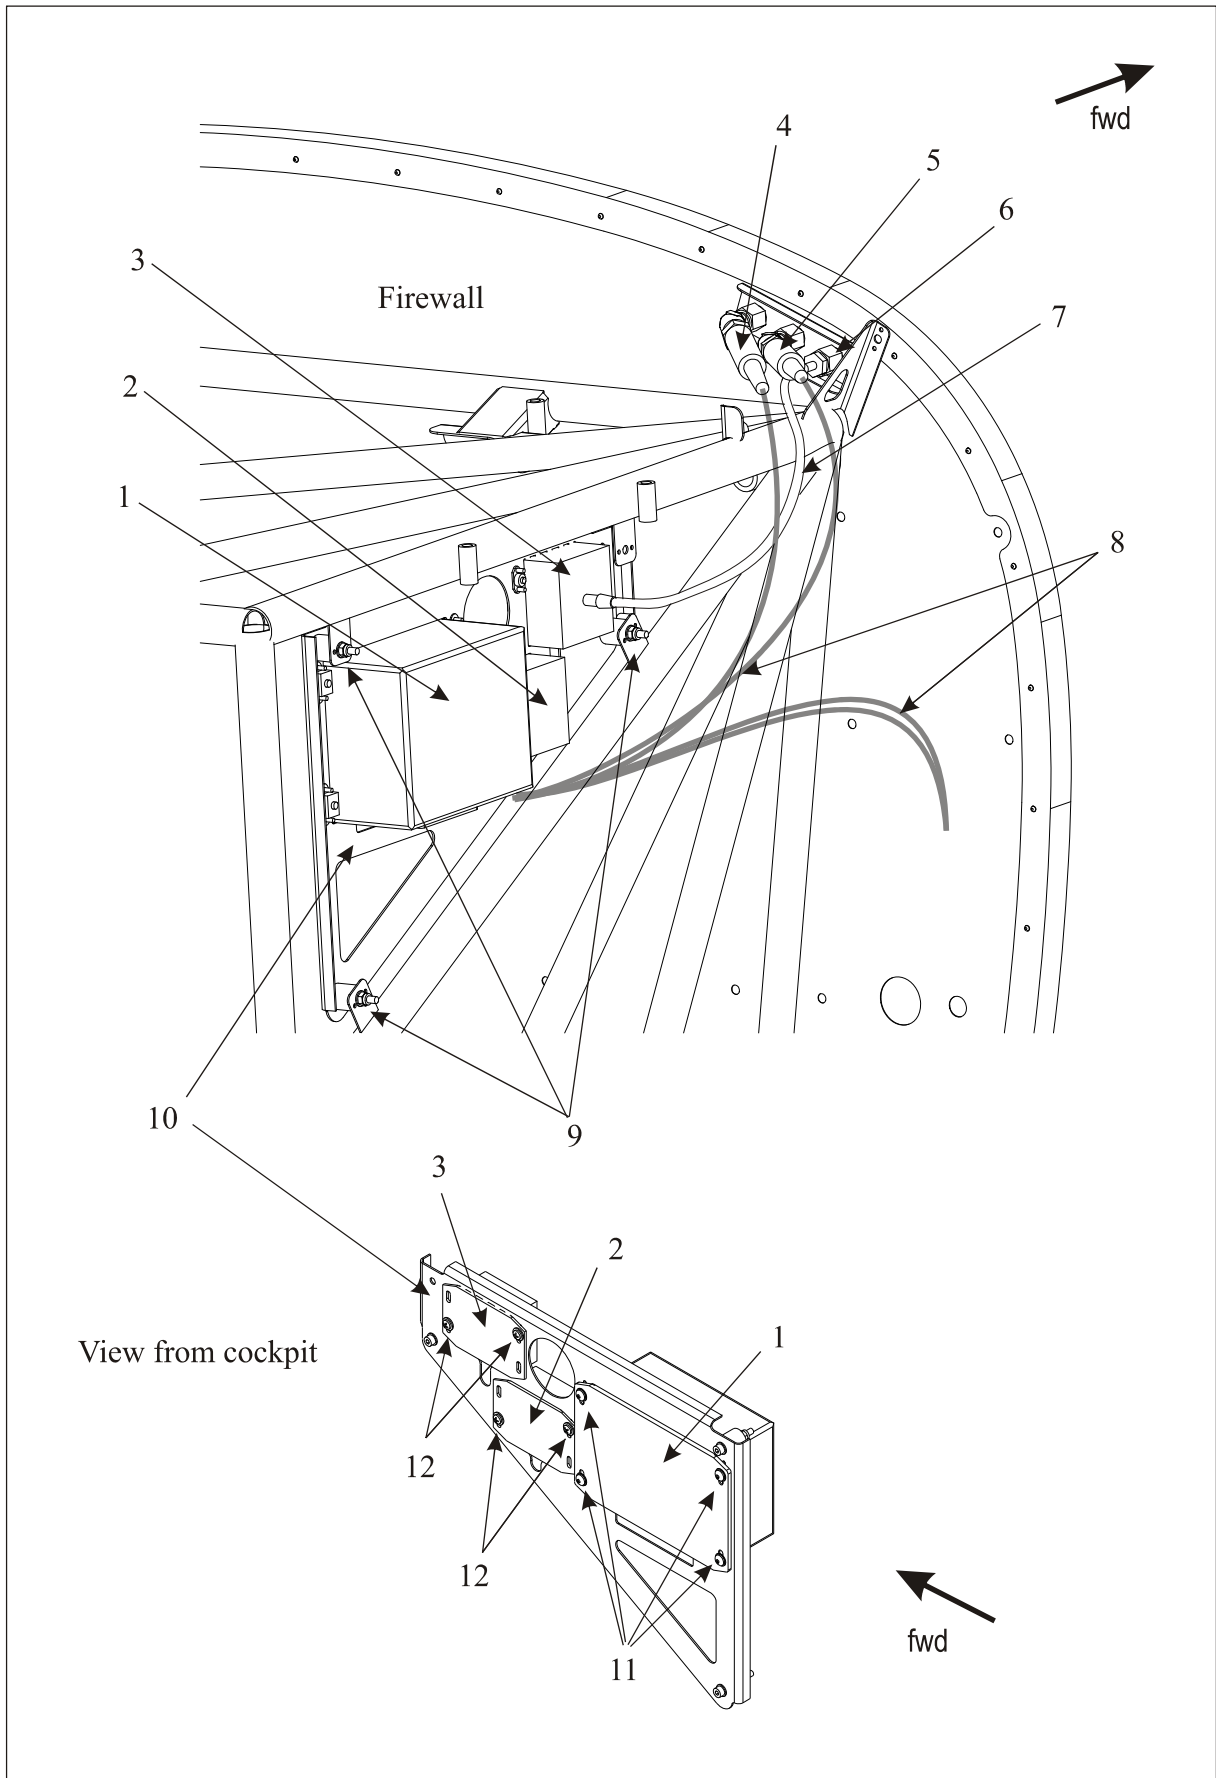
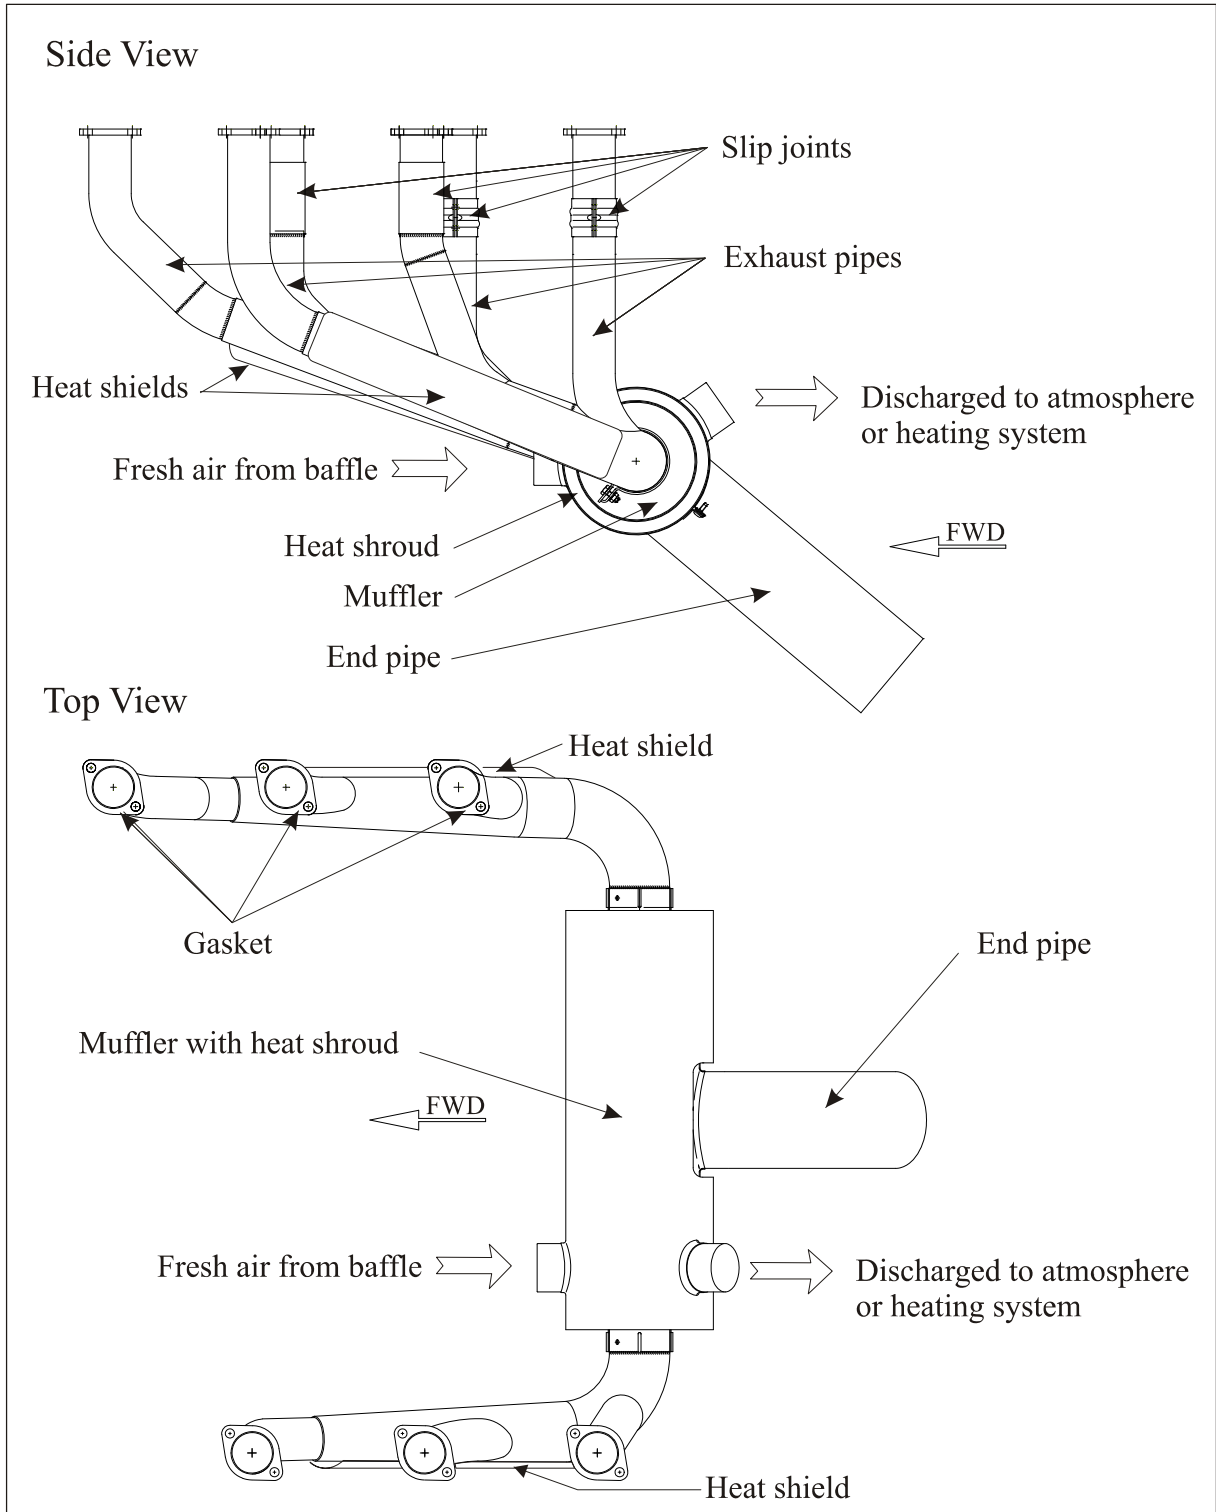

Figure 5
Figure 1 Exhaust System
To carry the electronic data converter (1, Figure 5) and two modules (2 - 3) a mounting sheet (10) is installed on the right side of the fuselage just behind the firewall.
- 2 Remove the electronic data converter (1, Figure 5) and the modules (2 - 3) as per following sections.
- 3 Remove the attachment bolts and shock mounts (9) and remove the mounting sheet (10).
- 2 Disconnect the electrical wiring (8) from the electronic data converter (1, Figure 5).
- 3 Remove the attachment bolts (11) and remove the electronic data converter (1).
- 2 Disconnect the electrical wiring (8) and/or tubing (7) from the module (2 or 3, Figure 5).
- 3 Remove the attachment bolts (12) and remove the module (2 or 3).
The oil (4, Figure 5) and fuel (5) pressure transducers are screwed to the respective fittings on the firewall.
The MAP transducer is module 3 of Figure 5. The tubing (7) is routed from the module through a bulkead fitting (6) in the firewall to the engine (see also Figure 1).
The EXTRA 330LX is generally equipped with a Gomolzig 6 in 1 exhaust system (refer to figure 1) with integrated silencer (muffler).